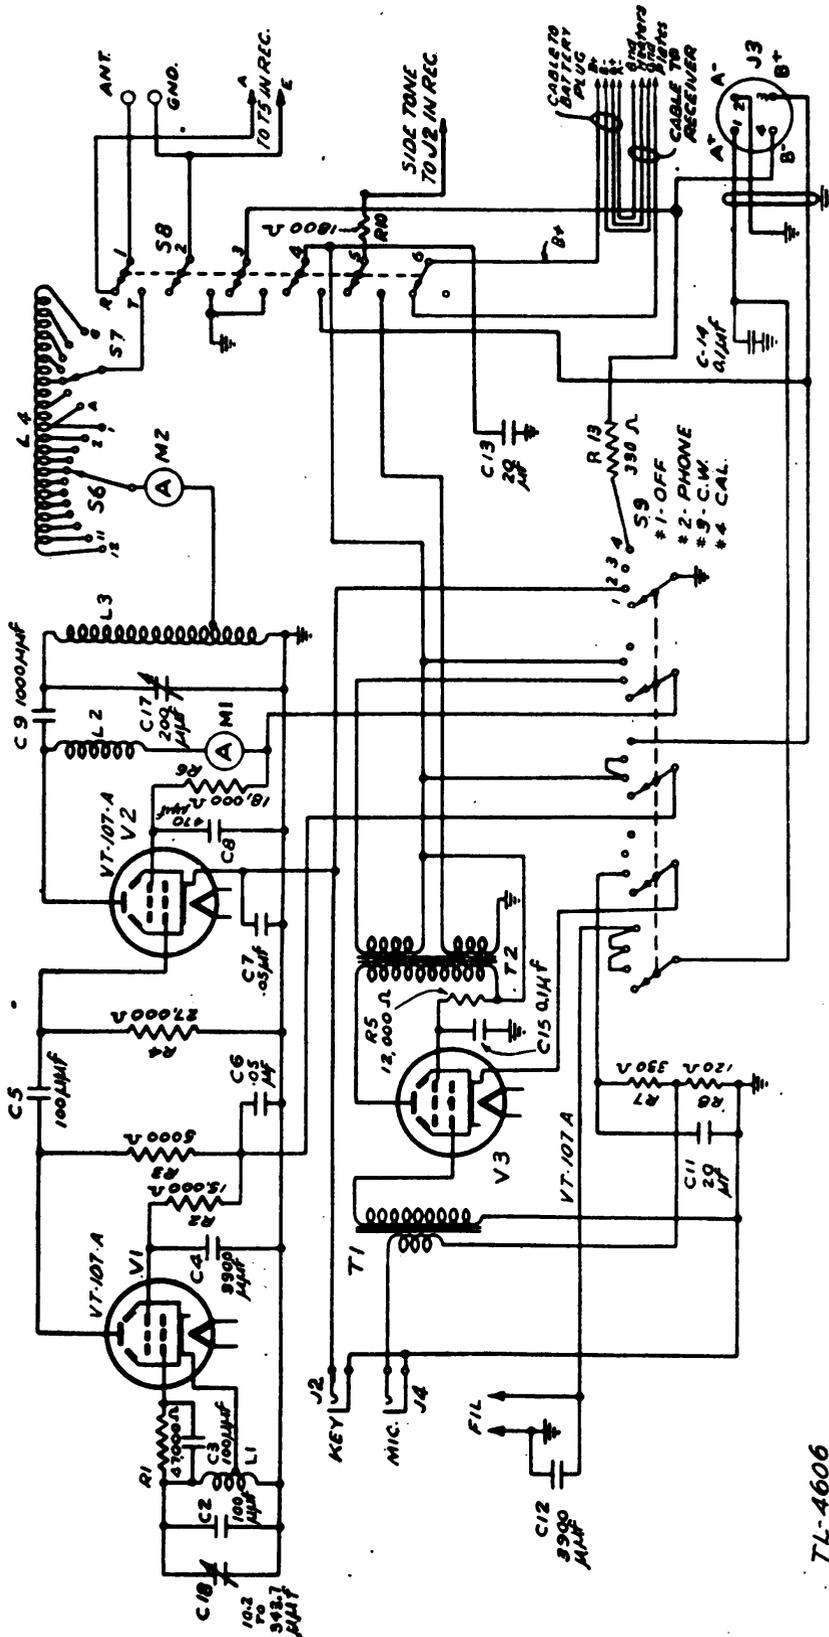

FIGURE 13.—Transmitter—schematic diagram.
11. **Transmitter unit.**—*a. Electrical characteristics.*—The transmitter unit is designed to operate within the frequency range of 3,500 to 6,300 kilocycles and to deliver into the antenna 4 watts of power for either voice-modulated emission or c-w emission. The schematic and wiring diagrams of the transmitter unit are given in figures 13 and 31, respectively.
b. To remove receiver and transmitter from cabinet.—If the trouble is not located by the preliminary checks, remove receiver-transmitter from the cabinet as outlined in (1) to (4), inclusive, below, and then make the checks indicated in *c* and *d* below.
(1) Remove antenna and counterpoise; withdraw key, microphone, and battery cable plugs.
(2) Detach stay-joint from cabinet sides and lower the lid out of the way.
(3) Loosen the eight knurled-head panel screws until they clear their threaded seats in the cabinet. Do not withdraw screws completely.
(4) Slide panel forward, withdrawing chassis from the cabinet. Place chassis on top of the cabinet or on some other flat surface.
d. Circuit checks.—Defective components can be located by voltage and continuity checks. For voltage checks refer to schematic diagram (fig. 13), wiring diagram (fig. 31), and (1) below. For continuity checks, refer to figures 13 and 31 and (2) below.
(f) Generator voltage adjusted so that voltage between B+ and B- (fig. 13) is 295 volts when the conditions given above exist. For the method of adjusting the generator voltage see paragraph 18a.